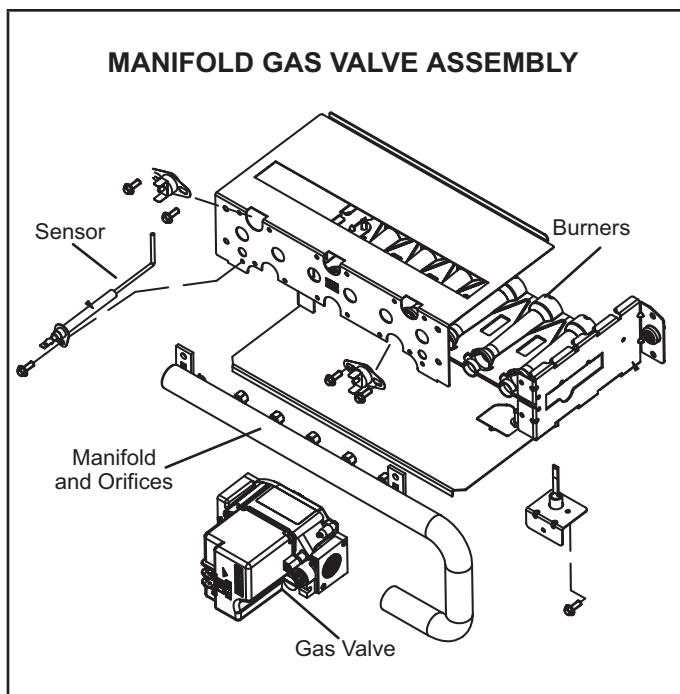

FIGURE 2
- 5 - Replace the burner orifices with the provided gas orifices. Torque to approximately 35 in-lbs. Do not use sealant on orifices. "FIGURE 2" shows manifold/gas valve assembly.